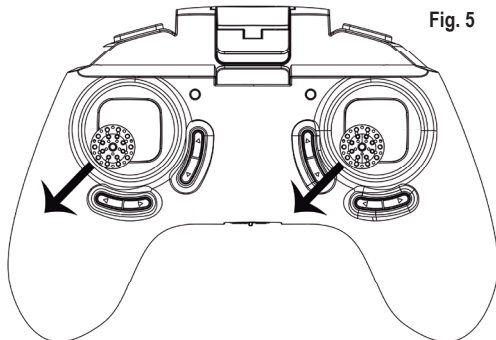

Fig. 5
- As you can see, when both joysticks are moved to the reset position (as indicated by arrow direction in illustration Fig. 5) the lights on the quadcopter will start to flash rapidly, which means that the reset process is being carried out.